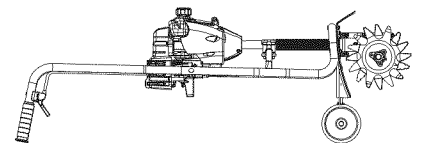

Fig. 5
Make sure the cultivator is in a horizontal position when filling or adding fuel to the tank (Fig. 5).
**WARNING:** Avoid accidental starting. Make sure you are in the starting position when pulling the starter rope (Fig. 5). To avoid serious injury, the operator and unit must be in a stable position while starting.